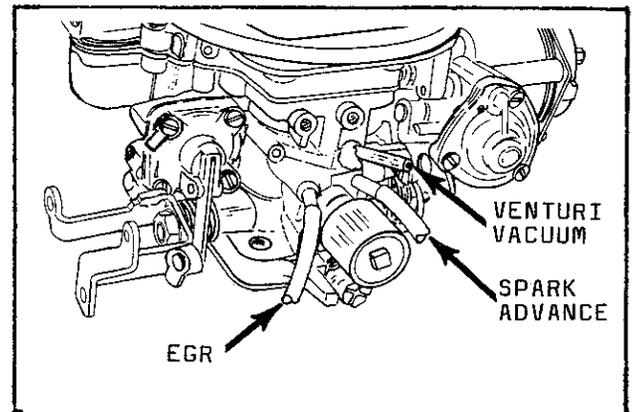
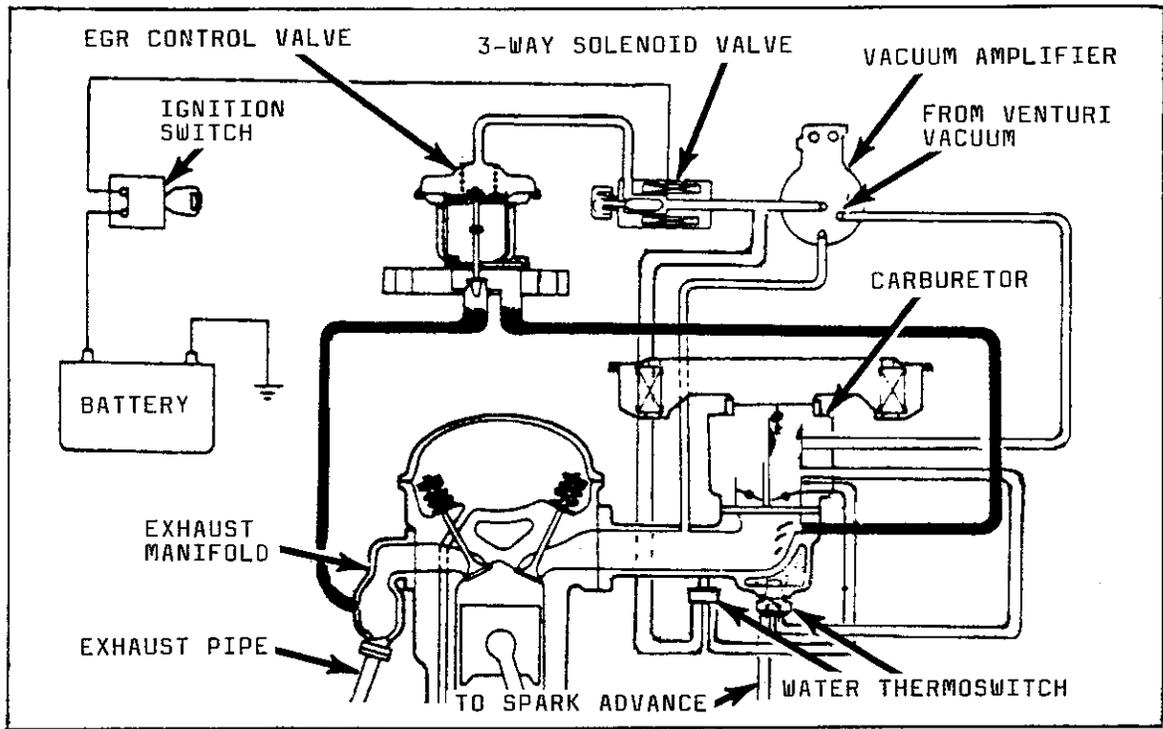

Figure 5
Figure 6. Emission Control System Schematic (2.0 L.)
22. Install hoses removed in step 8 on the Weber carburetor. The spark advance line is connected to the lower fitting on the choke end of the carburetor as shown in figure 5. The other lower fitting is connected to the vacuum amplifier, which then connects to the EGR control valve. See figure 6 or 7. The third fitting shown in Figure 5 is the venturi vacuum fitting, which connects to the vacuum amplifier (Fig. 6 or 7).